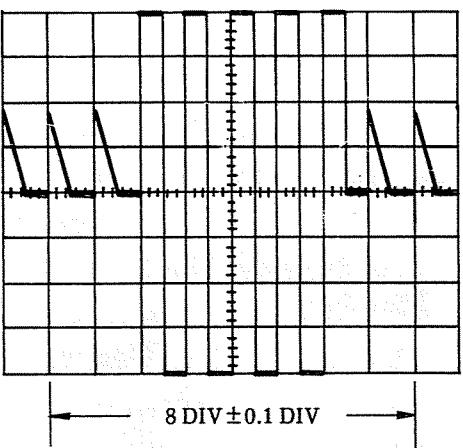
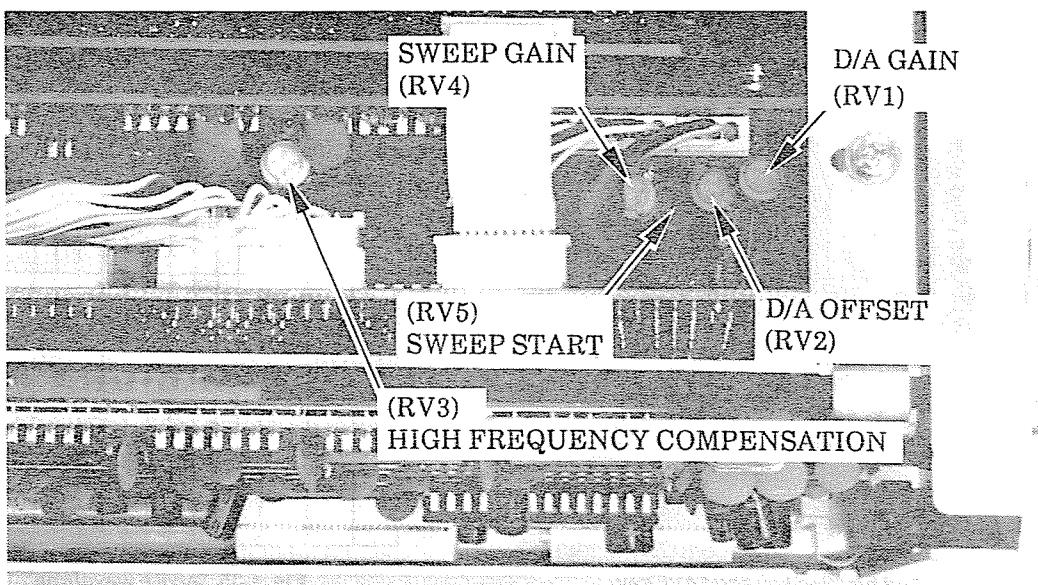
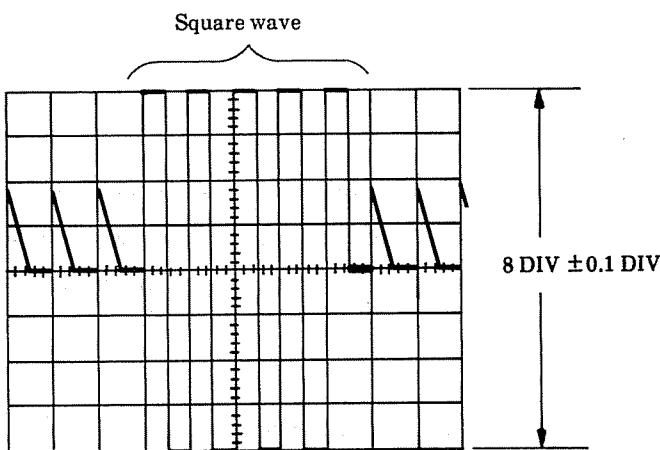
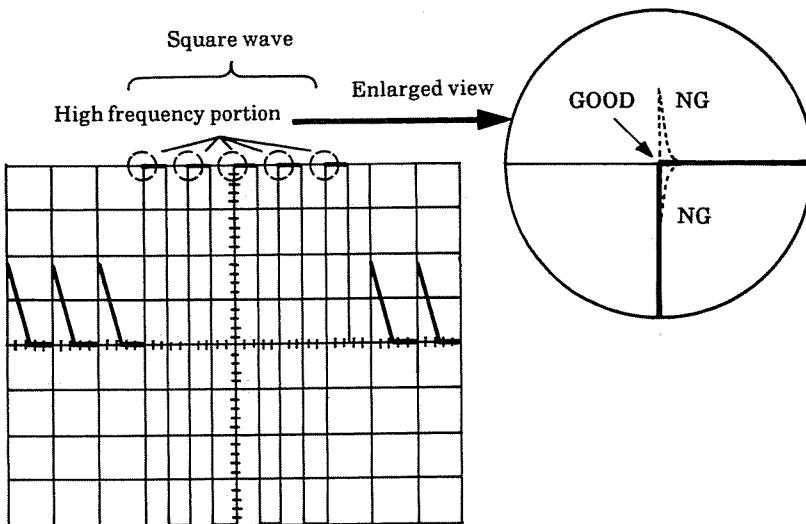

Fig. 4-36 AdjustING sweep gain
Fig. 4-37 Adjustment position of D/A GAIN (RV1), D/A OFFSET (RV2), HIGH FREQUENCY COMPENSATION (RV3), SWEEP GAIN (RV4) and SWEEP START (RV5)
Fig. 4-38 Adjusting vertical position and gain
Fig. 4-39 High frequency portion of square wave
- (1) Perform initial switching of the instrument in accordance with Table 4-3.
- (2) Align the starting point of the sweep with the first graticule at the left of the CRT screen. (Do not change this setting.)
- (3) Confirm that when "STORAGE/REAL" is set to "STORAGE", the starting of the sweep is within  $\pm 0.1$  DIV with the first graticule at the left edge. If it is not, adjust SWEEP START (RV5) on board A18 shown if Fig. 4-37.
- (1) Display the service waveform. [For details, see 1).]
- (2) Confirm that the clearance between A and B shown in Fig. 4-36 (2nd and 9th graticule) is within  $8 \text{ DIV} \pm 0.1 \text{ DIV}$ . If it is not, adjust SWEEP GAIN (RV4) on board A18 shown in Fig. 4-37.
- (2) Confirm that the amplitude of the square wave portion of the service waveform is within  $8 \text{ DIV} \pm 0.1 \text{ DIV}$ , as shown in Fig.4-38. If it is not, adjust D/A GAIN (RV1) on board A18 shown if Fig. 4-37.
- (2) Confirm that the vertical position of the service waveform is at the center of the CRT, as shown in Fig. 4-38. If it is not, adjust D/A OFFSET (RV2) on board A18 shown if Fig.4-37.
- (1) Display the service waveform. [for details, see 1).]
- (2) Confirm that the high frequency characteristics of the square wave portion of the service waveform (see Fig.4-39) are flat. If they are not, adjust HIGH FREQUENCY COMPENSATION (RV3) on board A18 shown in Fig.4-37.